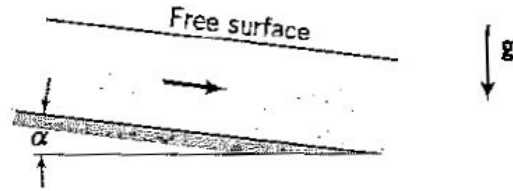

Figure P8.30:
8.30 Water at $60^\circ F$ flows at a rate of $300\text{ ft}^3/\text{s}$ through a rectangular open channel that slopes down at an angle α , as shown in Figure P8.30. The depth of the water is 5 ft , and the width of the channel is 8 ft . The channel is made of concrete which has a friction factor